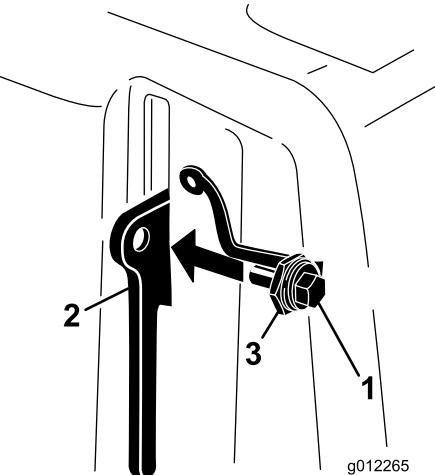

Figure 10
3. Thread the bolt into the belt cover latch lever (Figure 10).